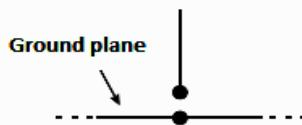

Fig.1.26 Vertical Monopole antenna
- ❖ Fig.1.26 shows one type of monopole antenna. In this the rod functions as an open resonator for radio waves, oscillating with standing waves of voltage and current along its length.